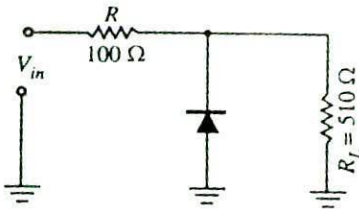

Fig. 20.53
1. The negative shunt clipper shown in Fig. 20.53 has peak input voltage of +15 V. What is the output peak voltage ? [12.54 V]